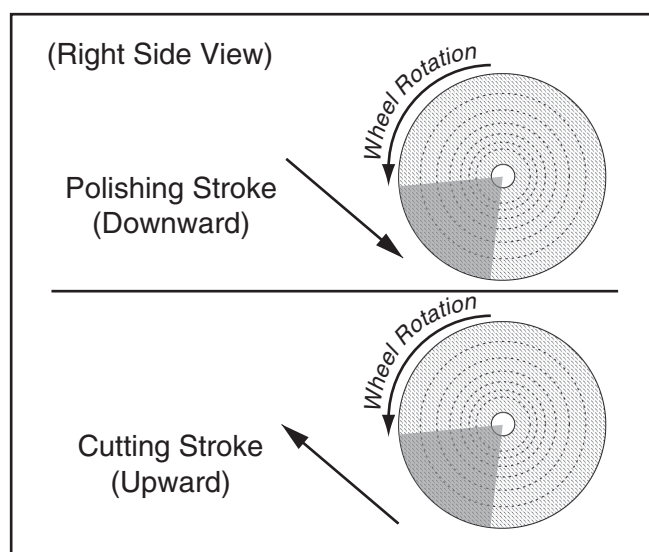

Figure 14. Cutting and polishing strokes.
- Always use an upward stroke with heavy to moderate pressure for cutting. Use a downward stroke with light pressure for polishing (see **Figure 14**).